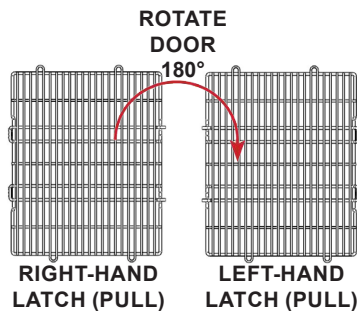

FIGURE 3.9 - Rotate Door
**STEP 8:** Rotate the door 180° about the face so that the hinge bushings are located on the right hand side of the door. The door has been rotated correctly if the vertical wires are in front of the horizontal wires. See FIGURE 3.9 & 3.10